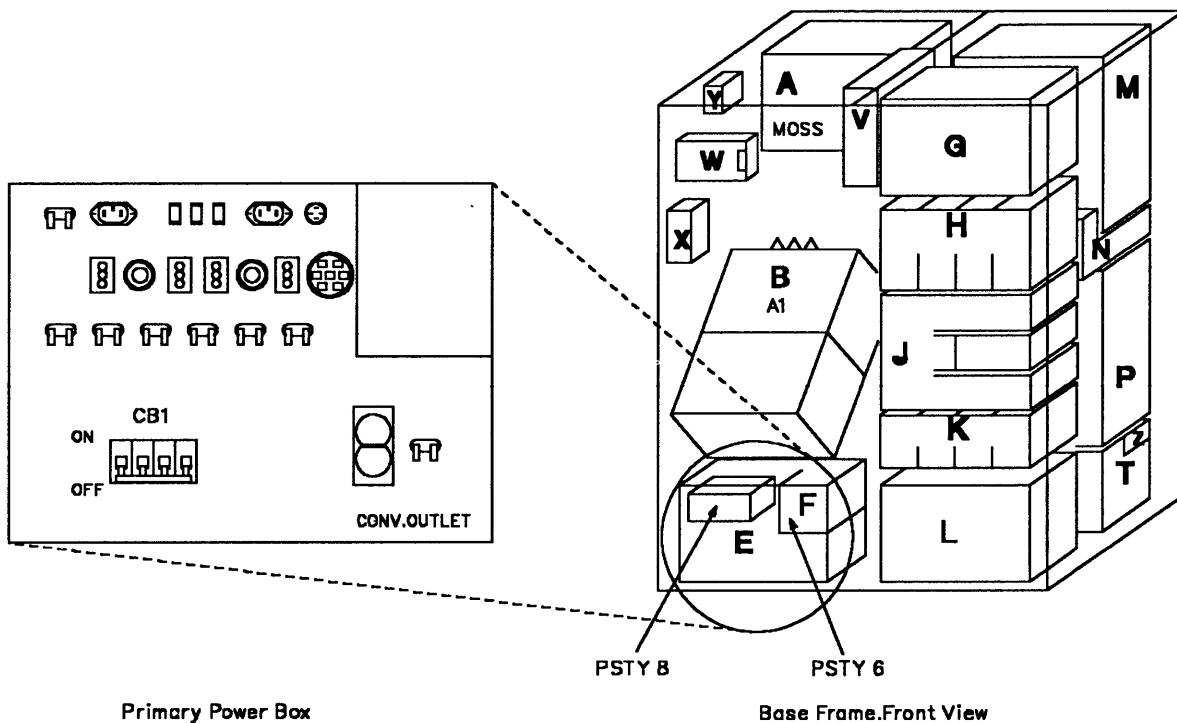

Figure 5-140. Primary Power Box
3. Switch CB1 OFF. Refer to Figure 5-140.
10. Switch the CB1 ON, refer to Figure 5-140 on page 5-139.